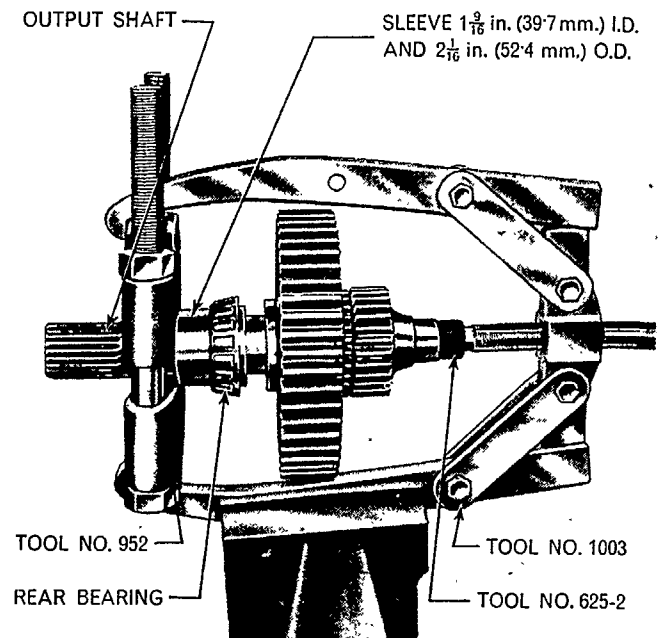

Figure 71
4. Install the steel thrust washer aligning the flats on the washer with those on the shaft, and position the rear bearing on the output shaft. Pull the bearing into position using Tools Nos. 1003, 952, 625-2 and suitable sleeve $1 \frac{9}{16}$ in. (39.7 mm) I.D. and $2 \frac{1}{16}$ in. (52.4 mm) O.D. of convenient length, Figure 71.